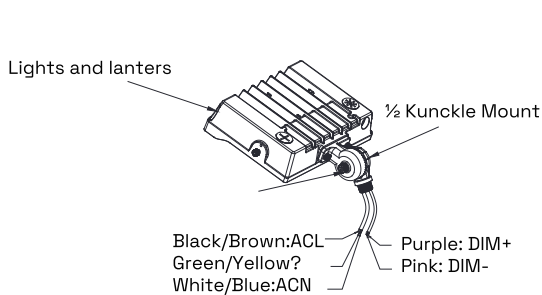
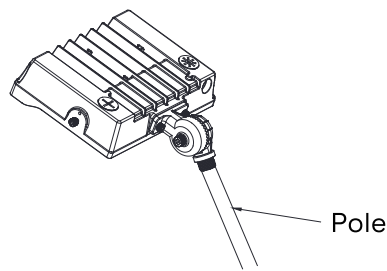

Fig 1.3
Fig 1.4
Step 2: Finish the wire connection according to the right mode of connection (pay attention to positive wire, negative wire, and ground wire), Figure 1.3 and then put wire into Imp pole. Figure 1.4